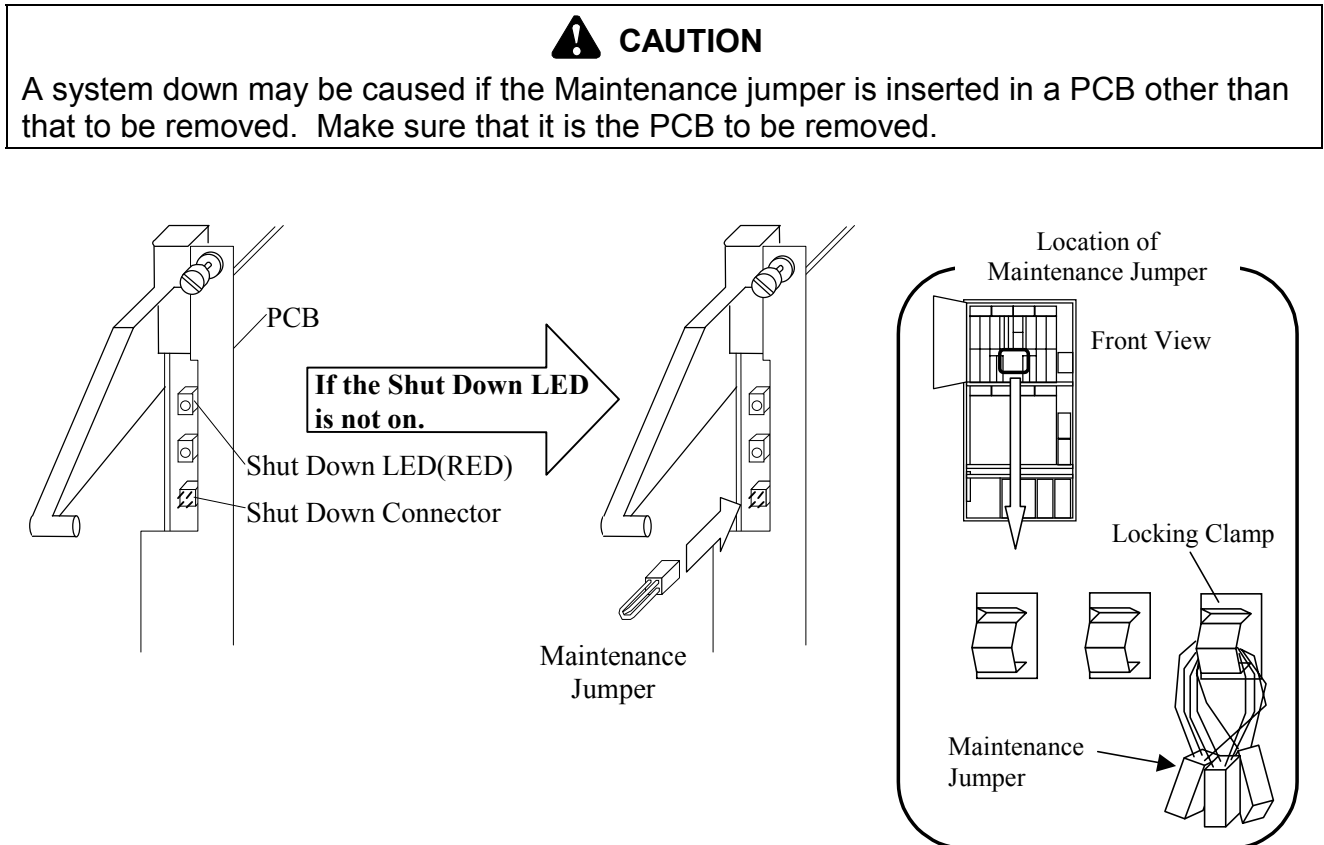

Fig. 4.3.3-1 Shut Down LED
- a. Confirm that Shut Down LED is on (Fig. 4.3.3-1). If the LED is not on, connect the Maintenance Jumper to the Shut Down Connector.
- Remove the bracket and cable clamp referring to Fig 4.3.3-2.
- Disconnect the optical fibre cables referring to Fig 4.3.3-3.